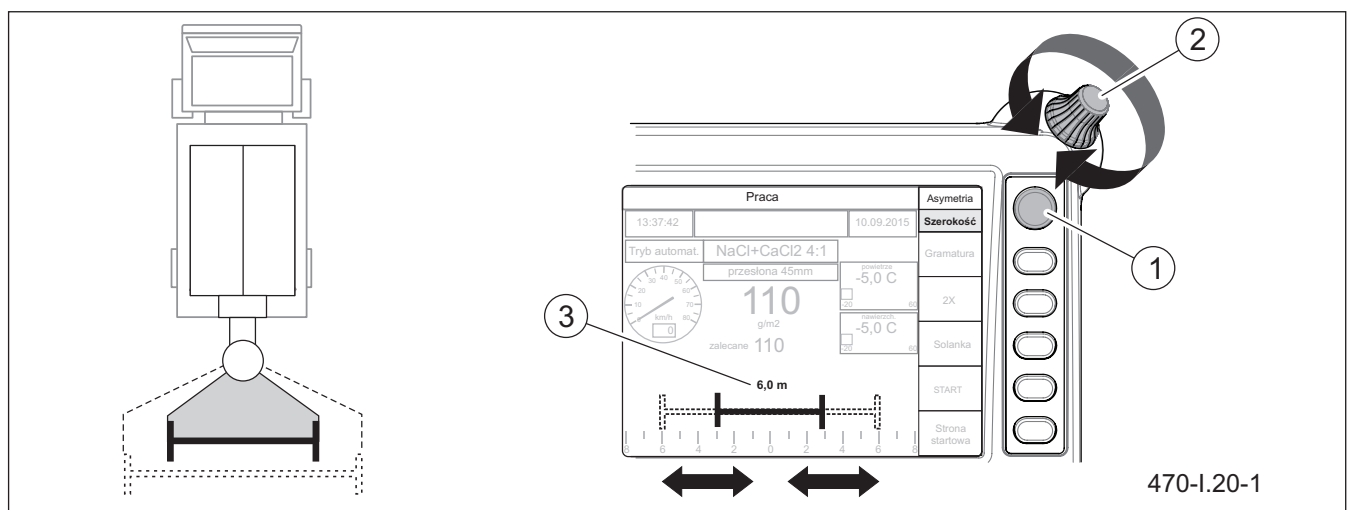
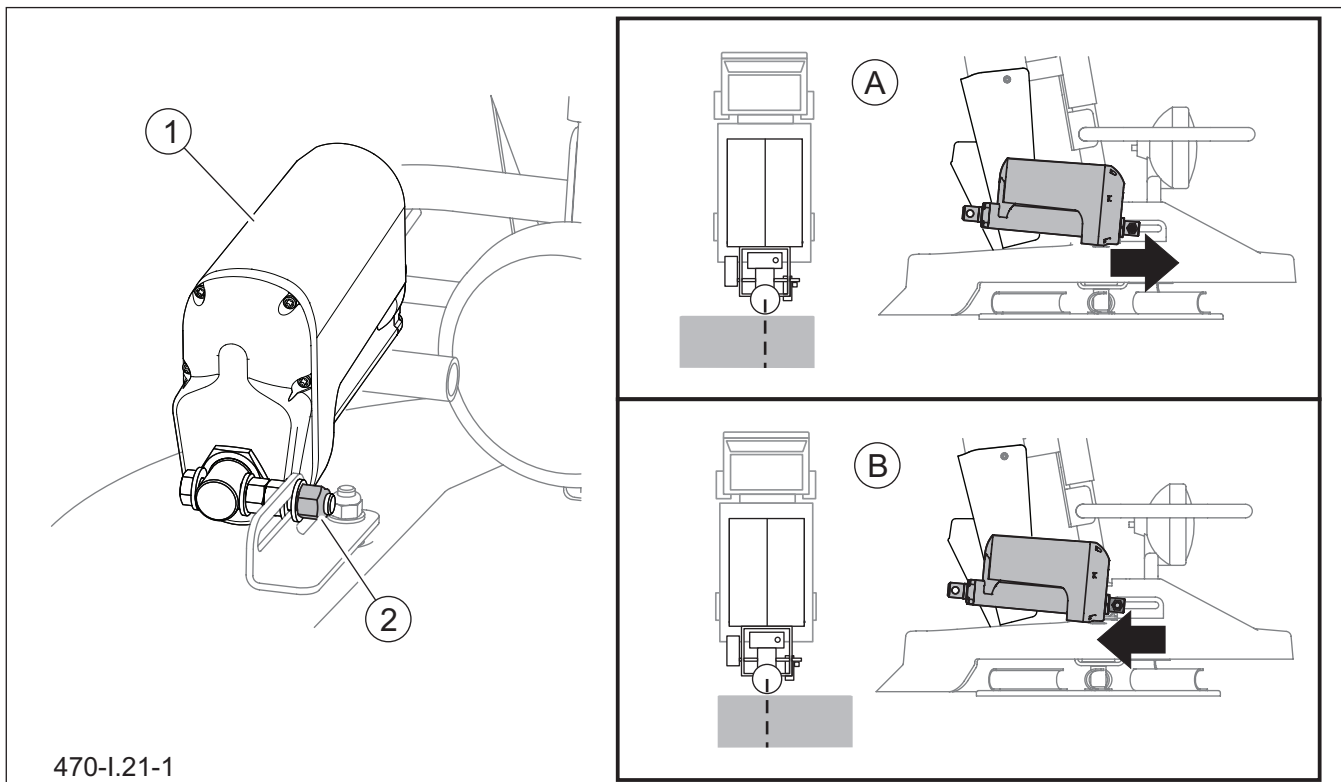

Figure 5.21 Changing asymmetry of spreading
Figure 5.22 Adjustment of spreading mechanism
- highlight "Width" function by means of push-button (1),
- turn knob (2) to set a required width (3) from 2 m ÷ 12 m.
To change asymmetry of spreading, highlight "Asymmetry" field on working page "Operation" by means of push-button (1). Turn knob (2) to move current spreading width to the right or to the left (Figure 5.21). For example, in the figure 5.22, for spreading width of 6 m, spreading asymmetry is shifted to the right.
5.22), set symmetric 4 meter-wide spreading zone on the control panel. Activate spreading and drive a short distance at a constant speed. Stop the vehicle and check effect of spreading. If spreading to the right side and to the left side is not the same, adjust spreading direction (Figure 5.22) adjusting cylinder (1) as follows:
- Loosen nut (2).
- Move cylinder (1) forwards if spreading zone is excessively shifted to the left (A).
- Move cylinder (1) backwards if spreading zone is excessively shifted to the right (B).
- Tighten nut (2), conduct test spreading, if necessary, repeat the adjustment.